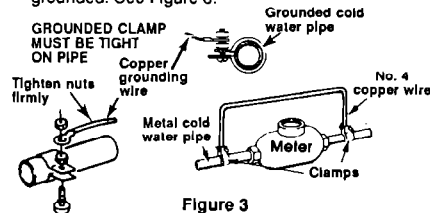

Figure 3
5. Connect the green (or bare) wire to a grounded cold water pipe* (or to the grounded lead in the service panel). Do Not ground to a gas supply pipe or hot water pipe. Do Not connect to electrical supply until appliance is permanently grounded. See Figure 3.